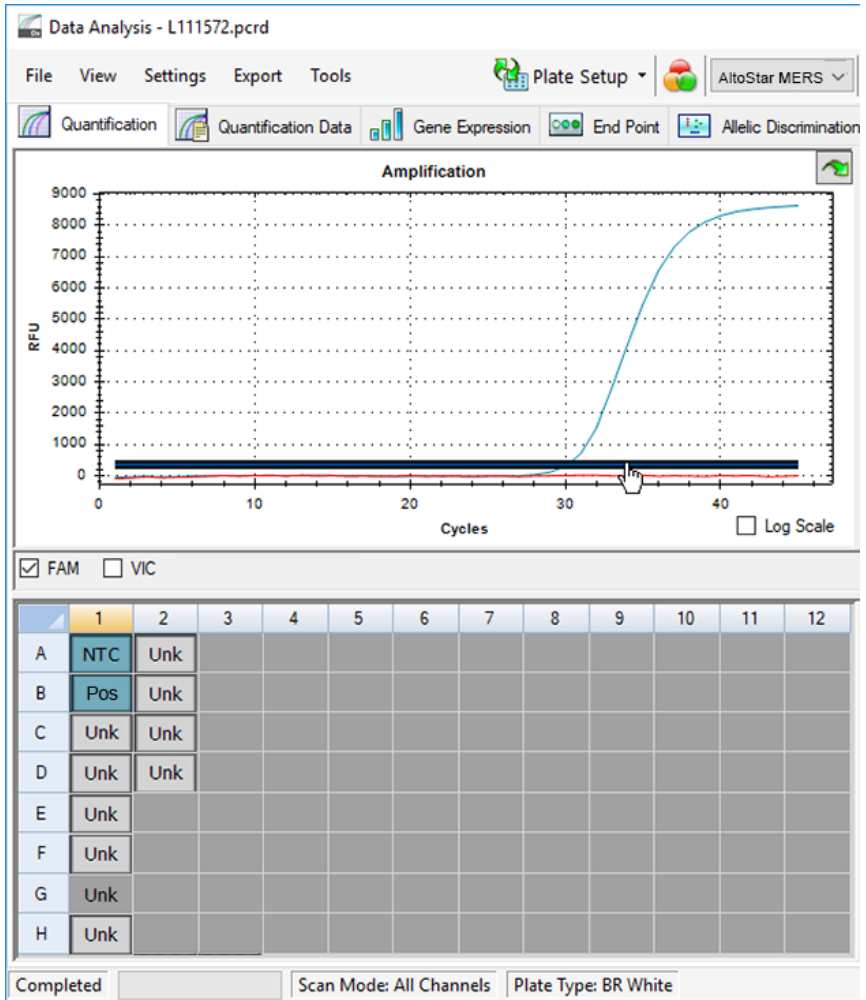

Figure 10: Data Analysis window: setting the FAM™ threshold
5. At the left side of the Data Analysis window untick the **VIC** checkbox and tick the **FAM** checkbox for the detection channel of the MERS-CoV target (see figure 10).
6. Select only the wells containing the NTC and the PC in the plate view of the Data Analysis window (see figure 10).
7. Drag the threshold well above the signal of the NTC into the exponential area of the PC signal (see figure 10).